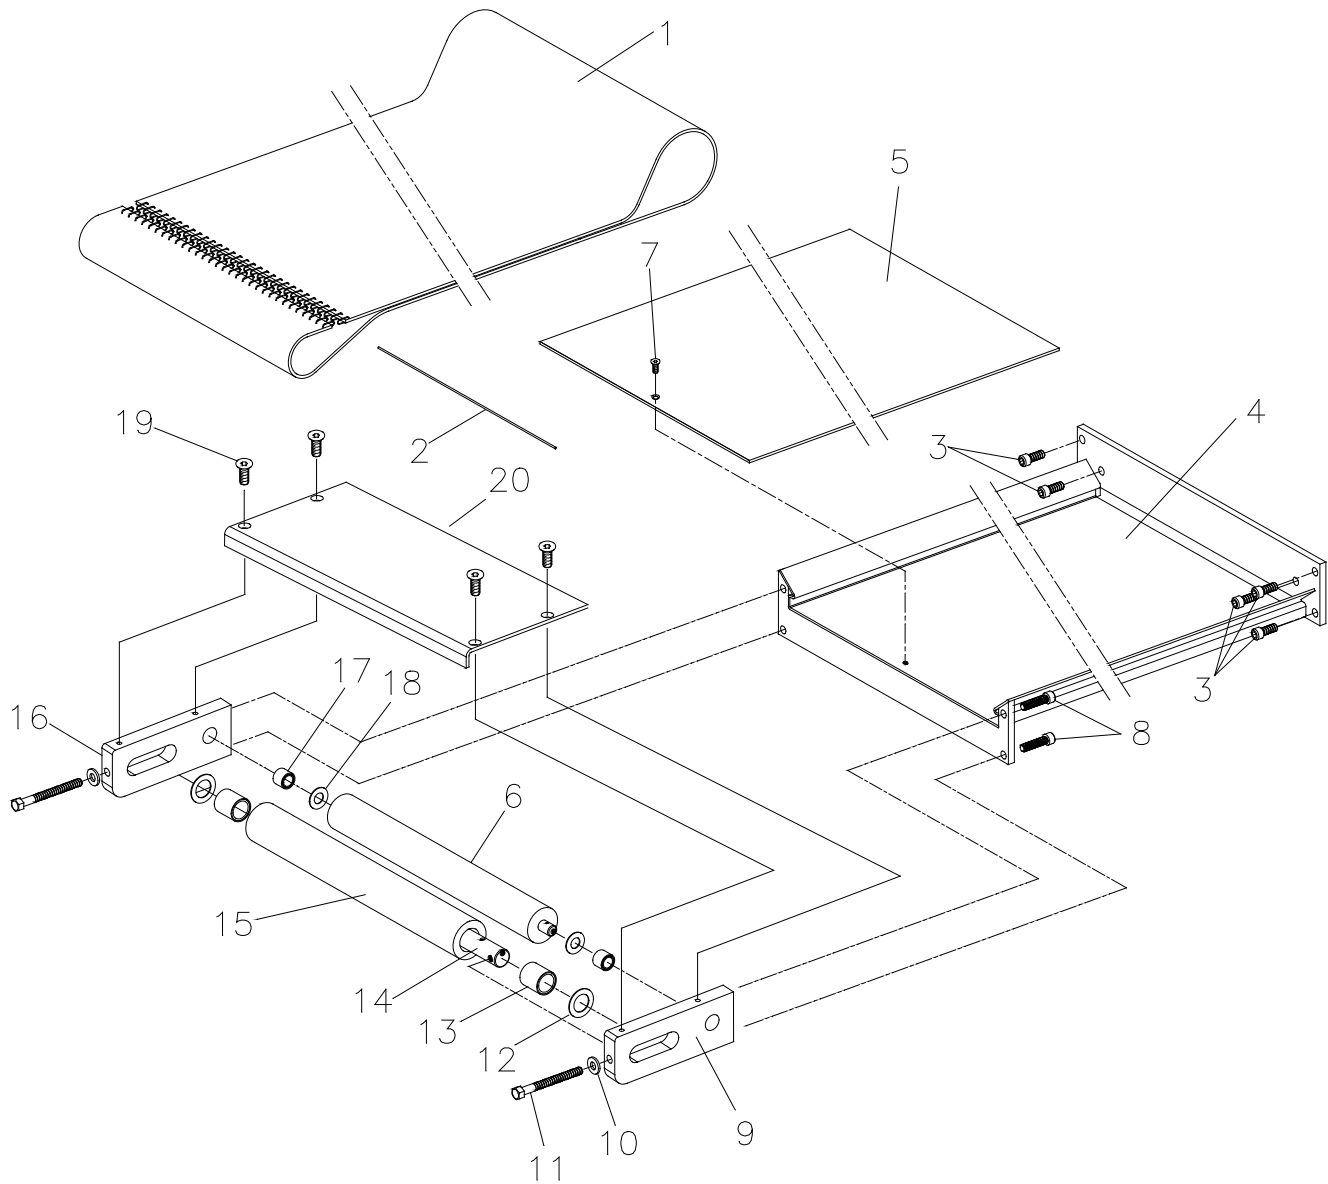

FIGURE 5A. FLUSH MOUNT TENSION END COMPONENTS
**FLUSH MOUNT TENSION END COMPONENTS (REF. FIGURE 5A)**